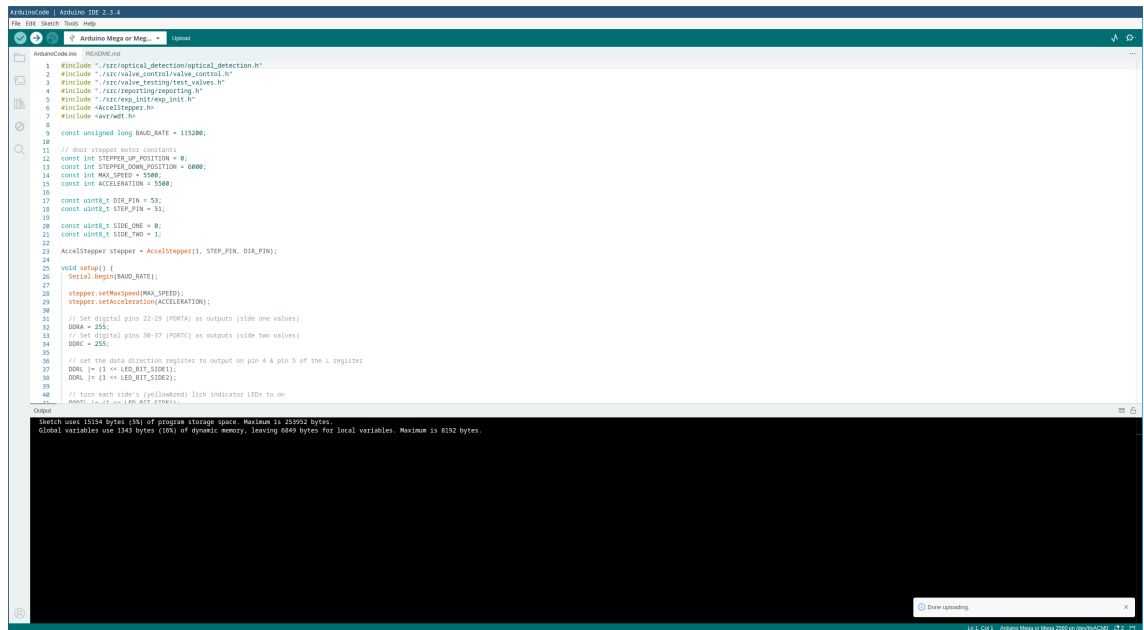

Figure 10: A Successful Upload Shows a 'Done Uploading' Notification.
7. **Upload the Update to the Board** - In the green top bar, hit the middle (second) button with a right arrow in it. This will upload the update to your board. If the update succeeds, you will see a small 'Done Uploading.' message in the bottom right hand side of your screen. This is shown in Figure 10.